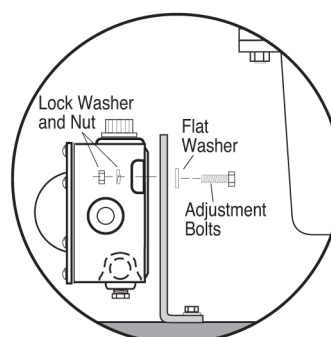

Figure 3B
2. Mount the LM2000 to the universal bracket using two 1/4-20 UNC x 1-1/4 inch (32 mm) bolts, nuts and lock washers supplied (Figure 3B). **DO NOT** tighten the adjustment screws too tightly. You will have to adjust the LM2000 later in the installation process.